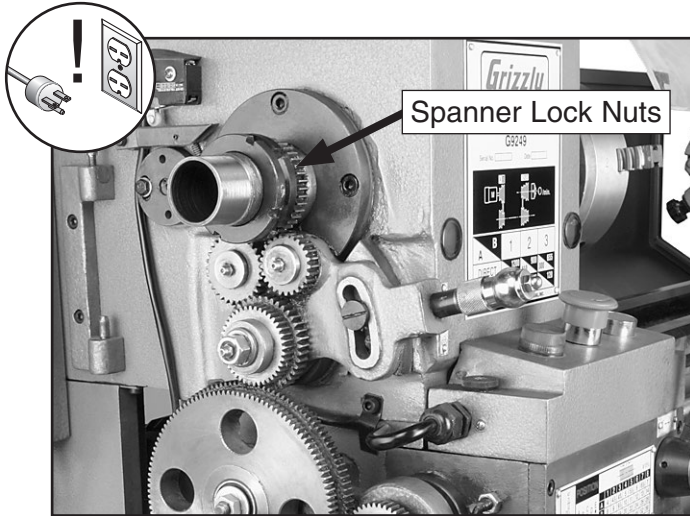

Figure 102. Spindle spanner nuts.
5. Using a spanner wrench or a hammer and punch, loosen and remove the outer spanner nut (see **Figure 102**).